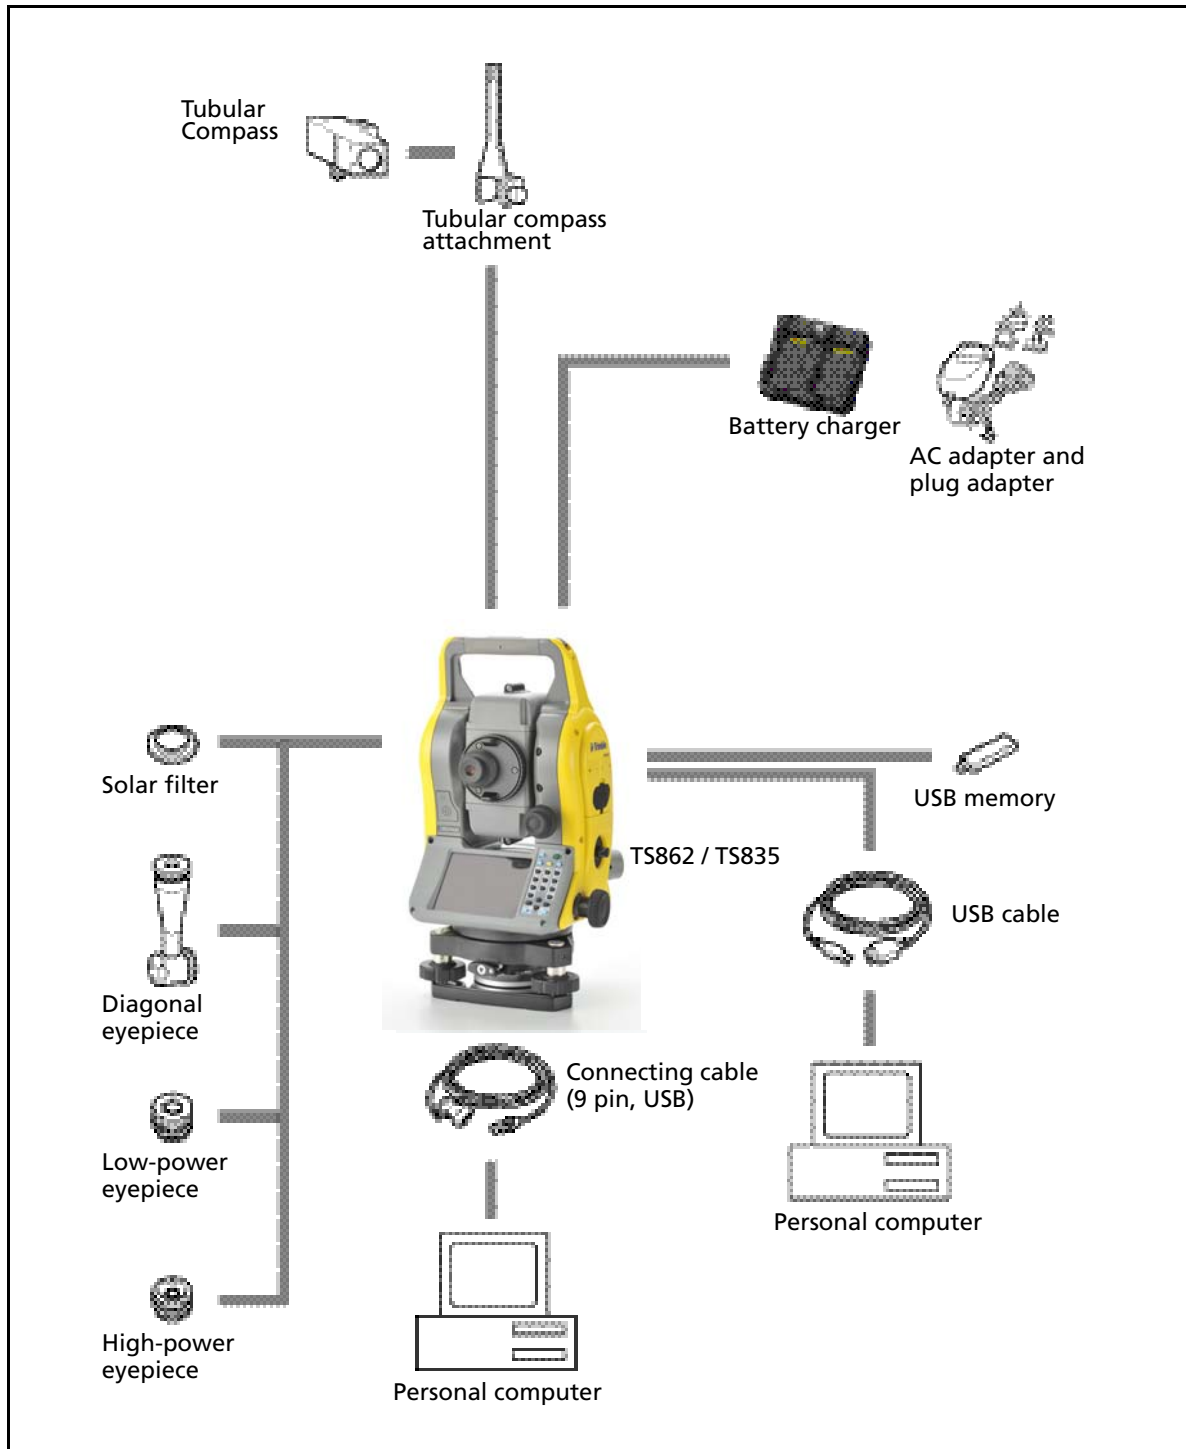

Figure 6.1 Measurement side
**CAUTION** – Except for the connection shown in Figure 6.1 on page 58, use of this connector is at your own risk.